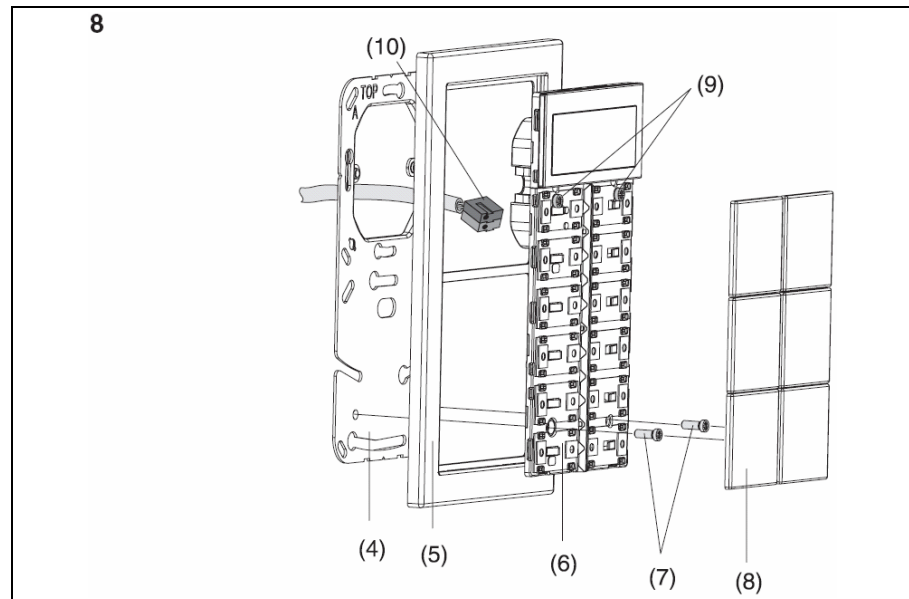

Fig. 8, Fitting FD design
- Fit the label covers (fig. 8).